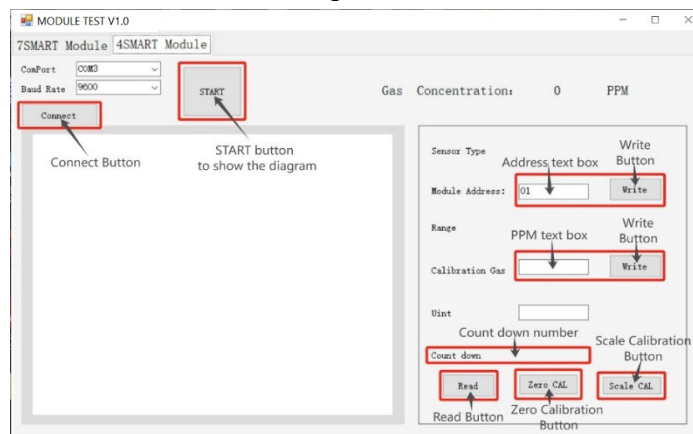

Figure 2.1
Open the software “SMART MODULE TEST”, select the corresponding serial port in Figure 2.1 & 2.2 for 7-Series and 4-Series Smart Module, default baud rate is 115200 for 7 series and 9600 for 4 series, then click button “Connect”.
2.2 Figures 2.1 and 2.2 show the main functions of the software interface. Please see the software function section for detailed operations.